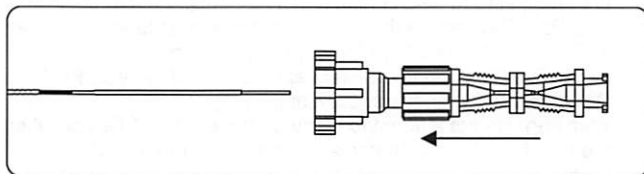

Figure 3
12. Attach the eCLIPs™ Hub to the proximal end of the eCLIPs™ Hypotube (as shown in Figure 3) and tighten the haemostatic grip.